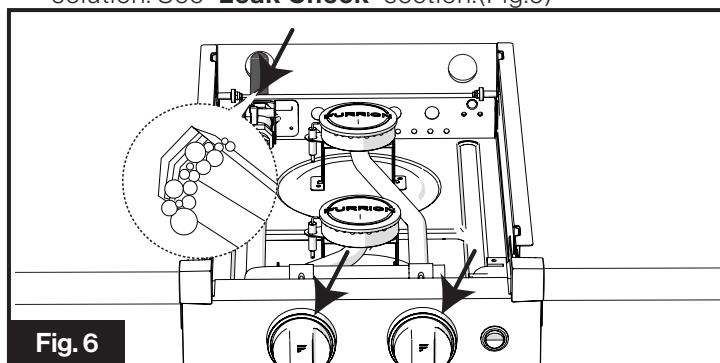

Fig. 6
2. Check the pipe fittings for leaks using a soapy water solution. See "**Leak Check**" section.(Fig.6)